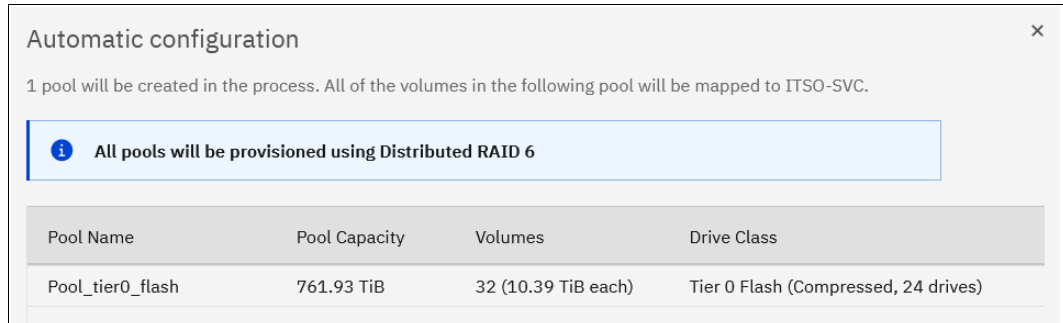

Figure 2-66 Pools configuration
8. Review the pool (or pools) configuration, as shown in Figure 2-66, and click **Proceed** to trigger the commands that applies it.